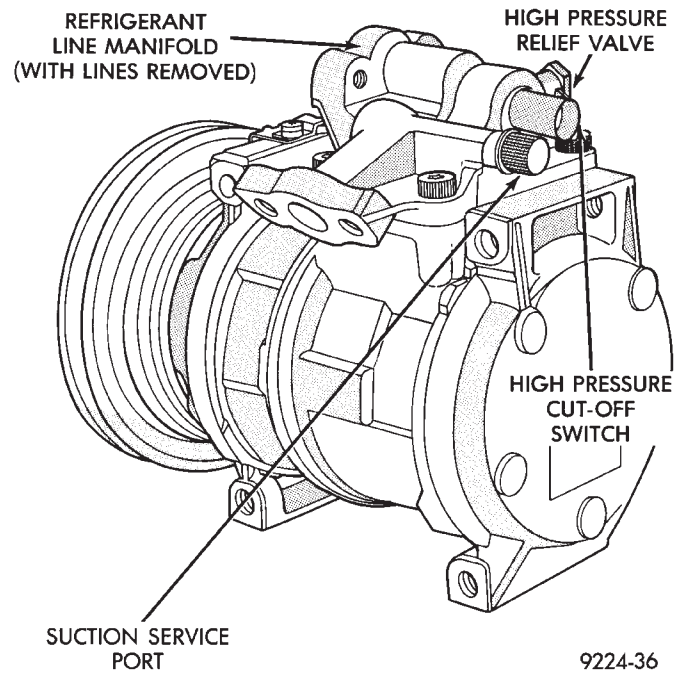

Fig. 20 High Pressure Relief Valve—Typical
- (2) Rotate the high pressure relief valve counter-clockwise and separate relief valve from the vehicle (Fig. 20).